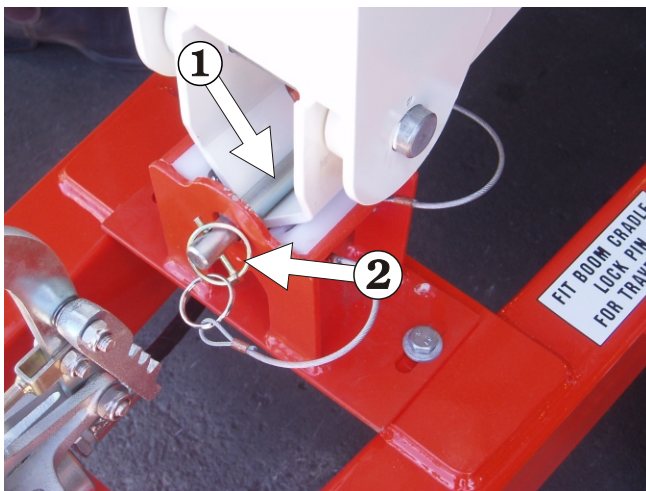

Figure 10.2 - Lower Boom Lock Pin
3. Insert lower boom pin ① in place (see Figure 10.2) and ensure snap pin ② is correctly locked in place through the boom pin.